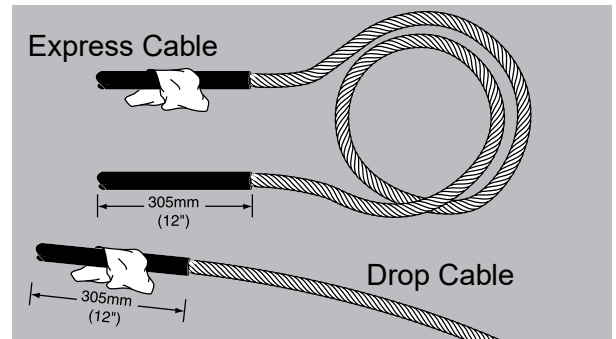

FIGURE 2
2. Using the cleaning tissue provided, clean and de-grease all prepared cable sheaths. (Figure 2)